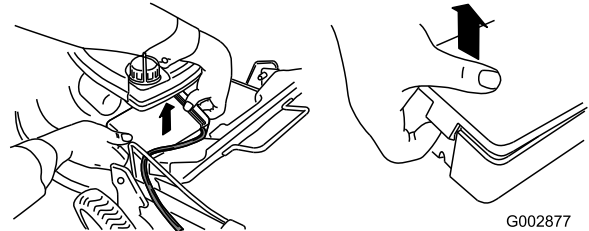

Figure 40
1. Unclip both ends of the battery cover and remove it (Figure 40).